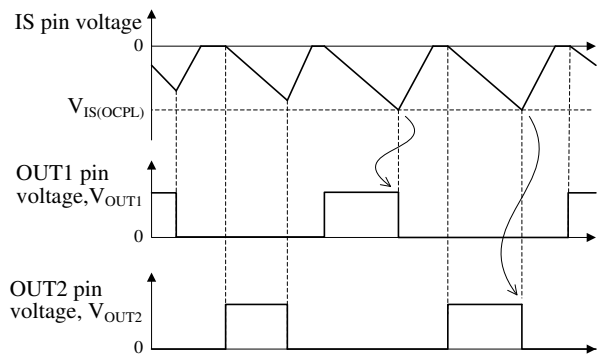

Figure 8-14 OCP operation by $V_{IS(OCPL)}$ (either V_{OUT1} or V_{OUT2} is high)
1) When either V_{OUT1} or V_{OUT2} is High, the output, which is set High, is set to Low as shown in Figure 8-14.